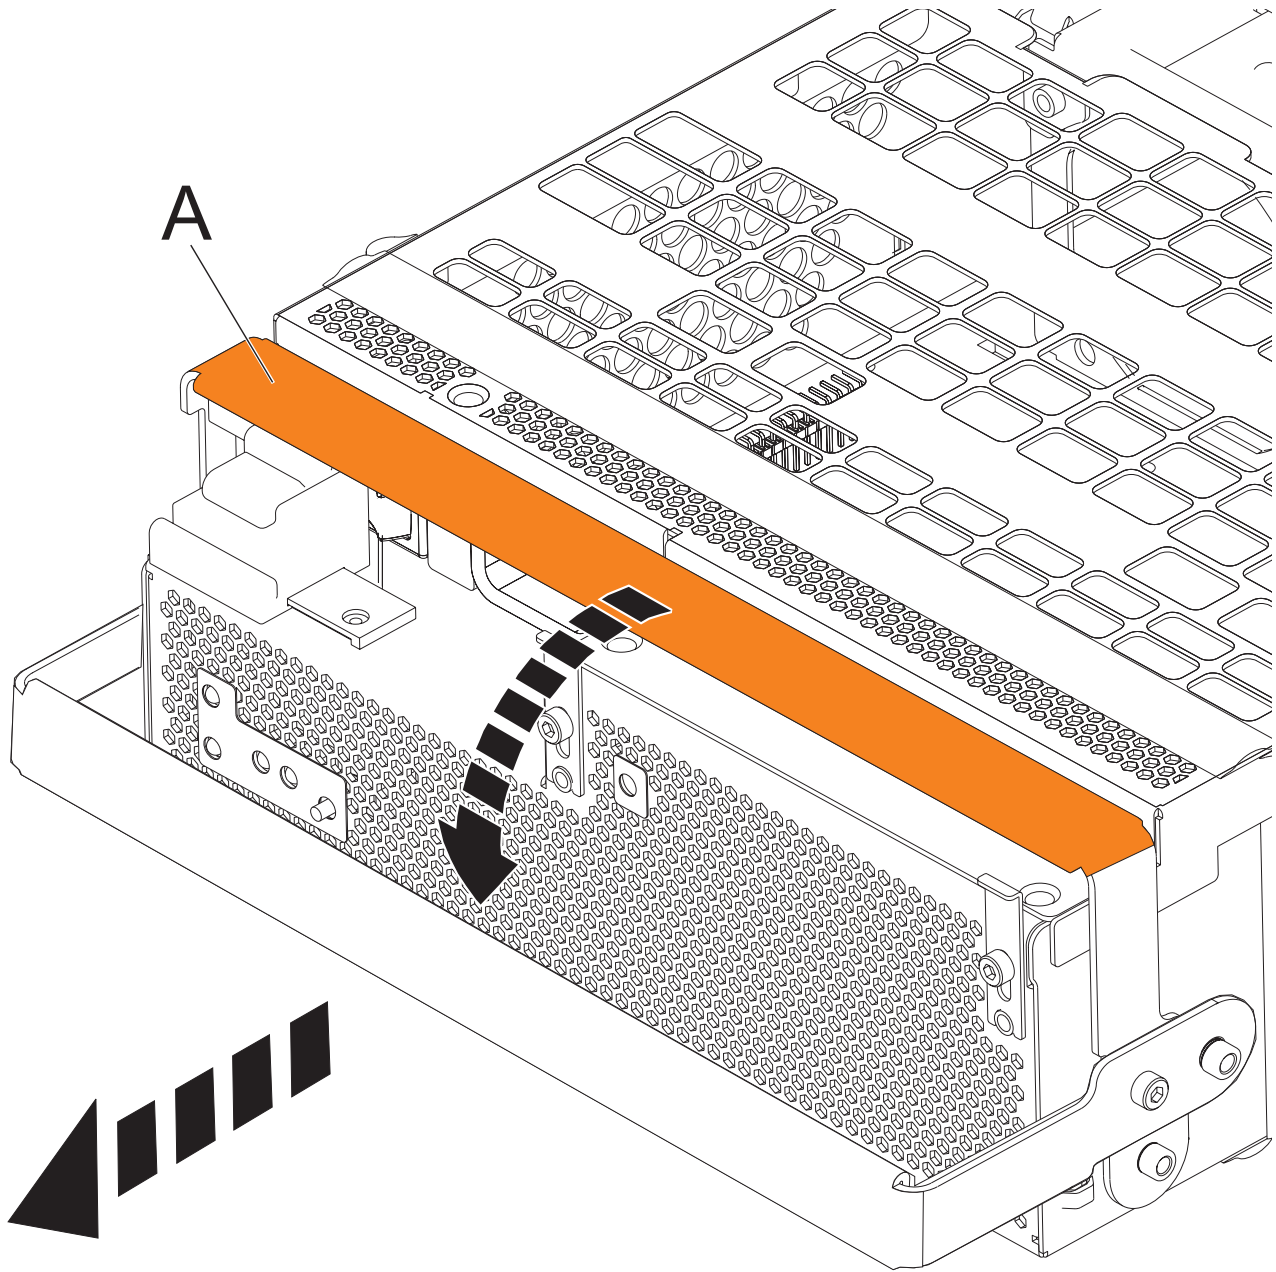

Figure 84. Remove the offline converter assemblies
- a. Pull the OCA handle (A) all the way down in the direction shown to unseat the OCA. See Figure 84 on page 120.